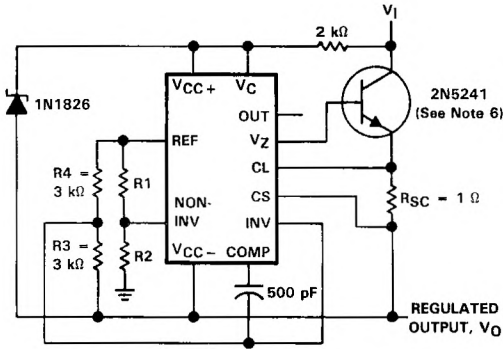

FIGURE 7. POSITIVE FLOATING REGULATOR
| <p>Outputs from +2 to +7 V (Figures 1,5,6,9, 11, 12, (4))</p> $V_O = V_{(ref)} \times \frac{R_2}{R_1 + R_2}$ | <p>Outputs from +4 to +250 V (Figure 7)</p> $V_O = \frac{V_{(ref)}}{2} \times \frac{R_2 - R_1}{R_1};$ <p>$R_3 = R_4$</p> | <p>Current Limiting</p> $I_{(limit)} \approx \frac{0.65 \text{ V}}{R_{SC}}$ |